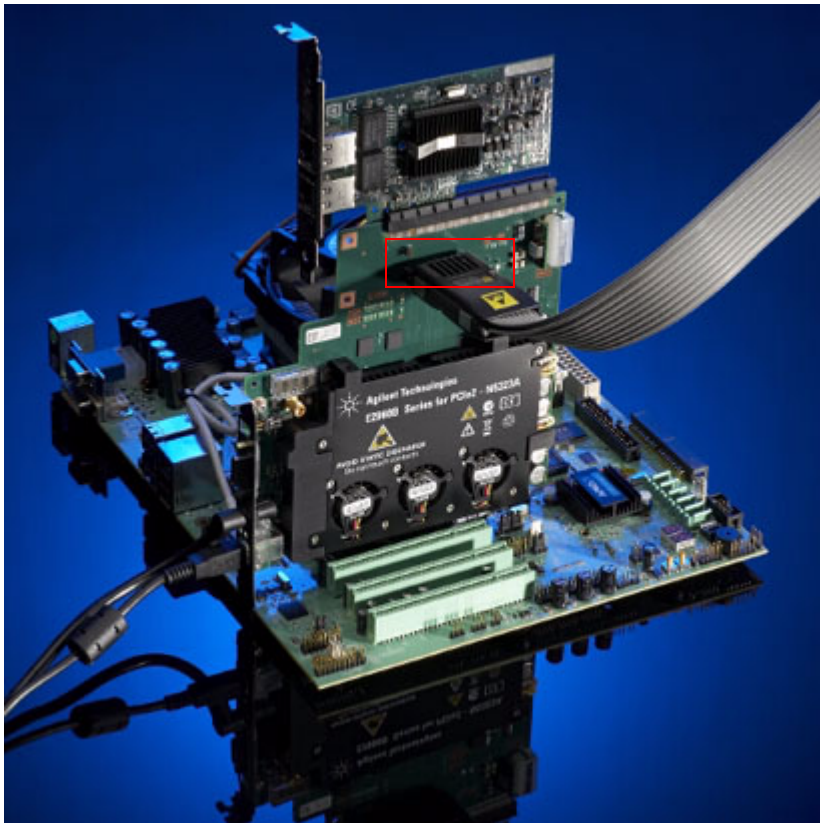

Figure 17 Midbus probe plugged into the retention module
- **Retention Module:** This component is used to connect the midbus probe to the N5323A jammer card (Figure 17), which allows midbus probe to be used for capturing traffic between N5323A and the add-in card.